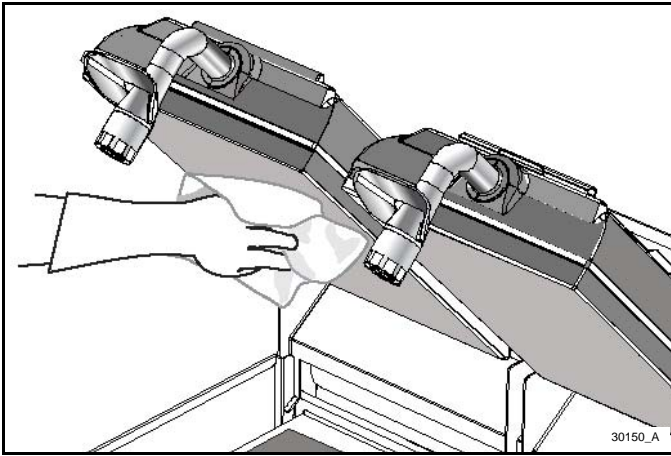

Figure-105
11. Rinse the upper and lower release sheets with a separate sanitizer-soaked grill cloth. Wipe until the grill cleaner residue has been fully removed. See Figure-105.